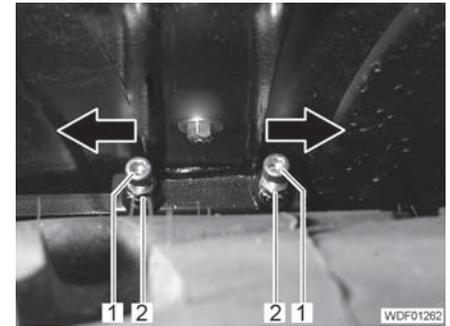

Fig. 269 Attachment
- If necessary, undo the nuts (Fig. 269,2) and screws (Fig. 269,1) and move the fender to the side so that it is exactly in the center above the wheel.
- Tighten the screws (Fig. 269,1) and nuts (Fig. 269,2).